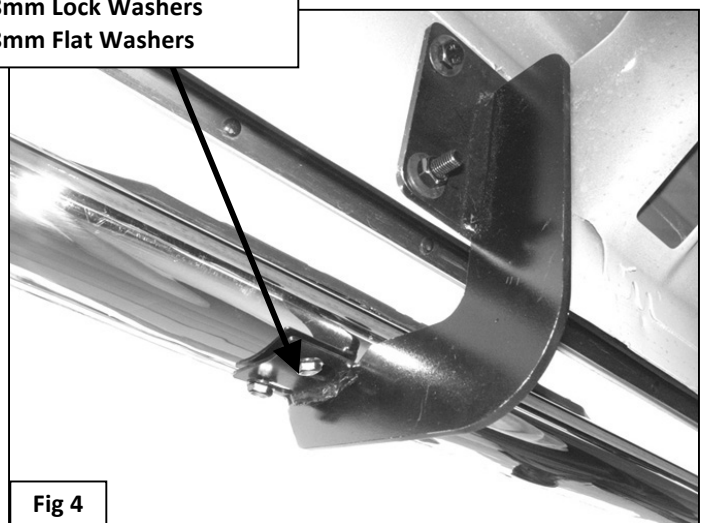

Fig 4
7. Carefully unwrap and position the Sidebar onto the Mounting Brackets. Bolt the Sidebar to the Brackets with (4) 8mm x 25mm Hex Bolts, (4) 8mm Lock Washers, and (4) 8mm Flat Washers, (**Figure 4**). Do not tighten at this time.